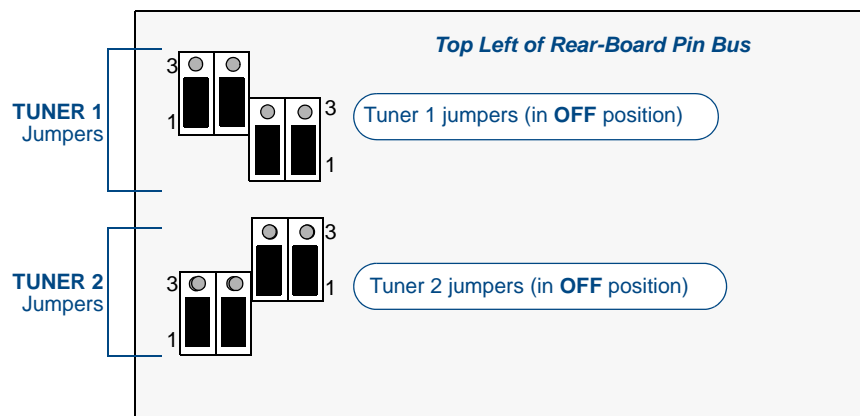

FIG. 64 Audio Controller Jumper Configuration (Dual Tuners)
4. Place all jumpers in the "Off" position (FIG. 64).